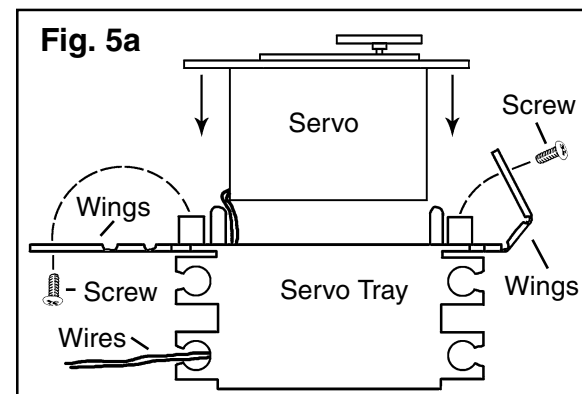

Fig. 5a
**6)** Assemble servo in the servo tray. By passing wires through cutouts in side of servo tray, inserting servo in servo tray, folding wings over and securing with screws. see **Fig. 5a**